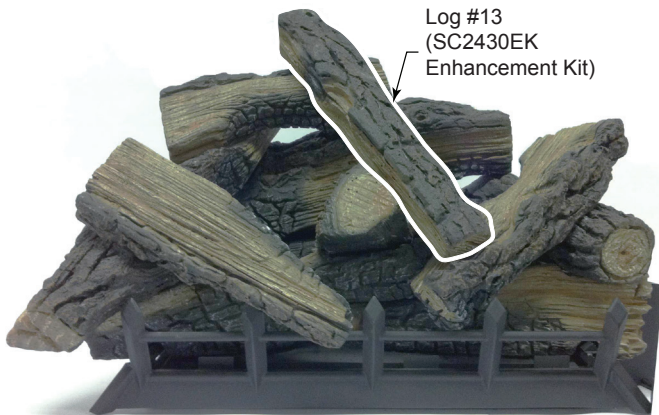

Figure 44
13. Place log #13 onto log #12 and top front right log (#10) by placing notch on bottom of log onto locating block on log #12. Rest bottom of log onto log #10 and center log (#9). *Figure 44*
2. Place the front left log (#2) on the pin located on the left side of the burner. (See Figure 44.)